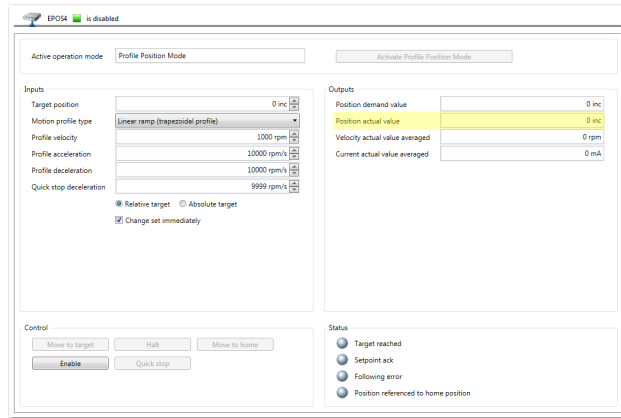

Figure 8-163 Adjustment of SSI commutation offset value | Check sense of rotation
c) The indication «Position actual value» (→ Figure 8-163) must increase.